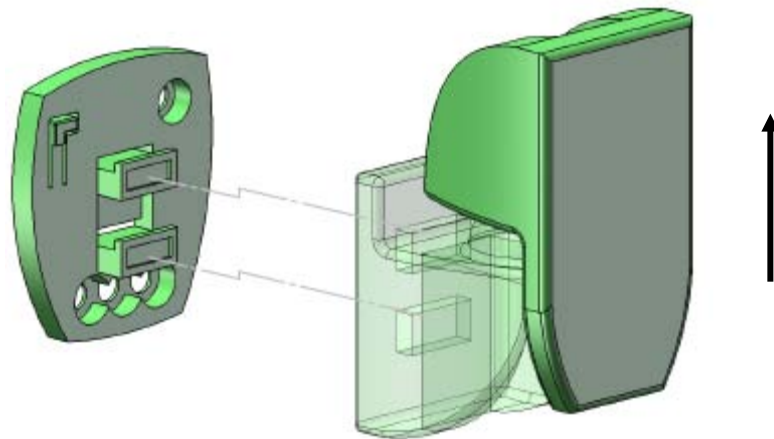
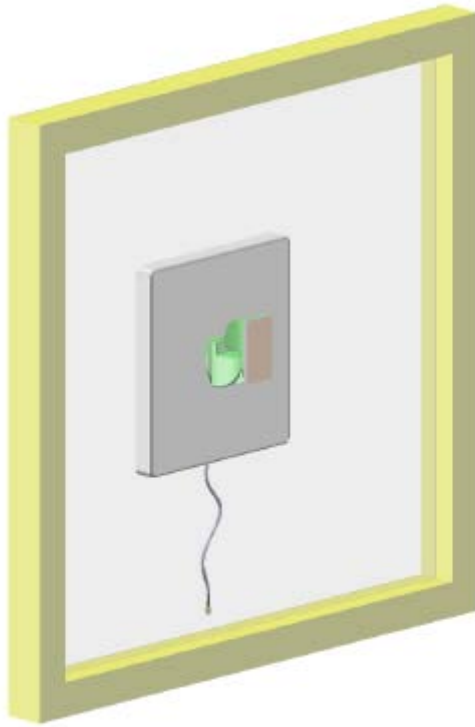

Figure 8: Connecting antenna holder to antenna adaptor
Figure 9: Front view of donor installation on window glass – Correct installation
2. Attach the antenna holder to the antenna adaptor installed on the front of the antenna, as shown in Figure 8.
3. Glue the antenna holder to the most suitable spot on the window. Before gluing, clean and remove fat and dust from the gluing area. Note that the adapter should be glued onto the window vertically. The adapter must be glued pointing up, see Figure 8 and Figure 9.
4. Press the antenna and front bracket gently onto the window, and wait a few seconds to ensure that it is properly attached, as shown in Figure 9.